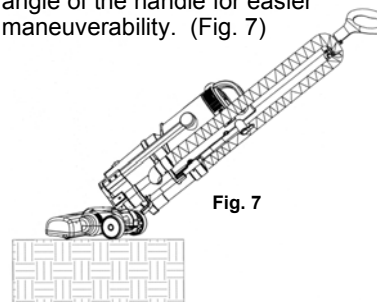

Fig. 7
**NOTE:** When vacuuming deep pile carpets or hard wood floors, lower the angle of the handle for easier maneuverability. (Fig. 7)